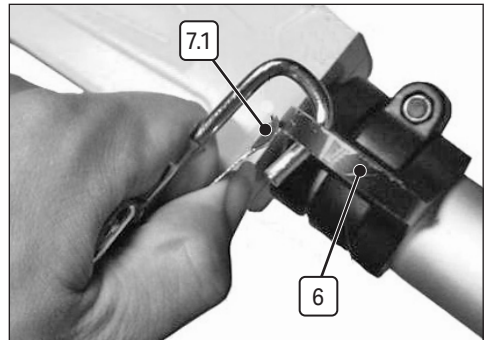

Fig. 4
6.3 Fitting the Shoulder Strap (Fig.4)